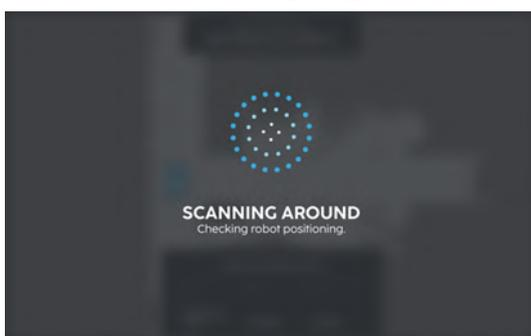

FIGURE 6-4
2. Wait for the machine to scan its surroundings and confirm the position (Fig. 6-4).